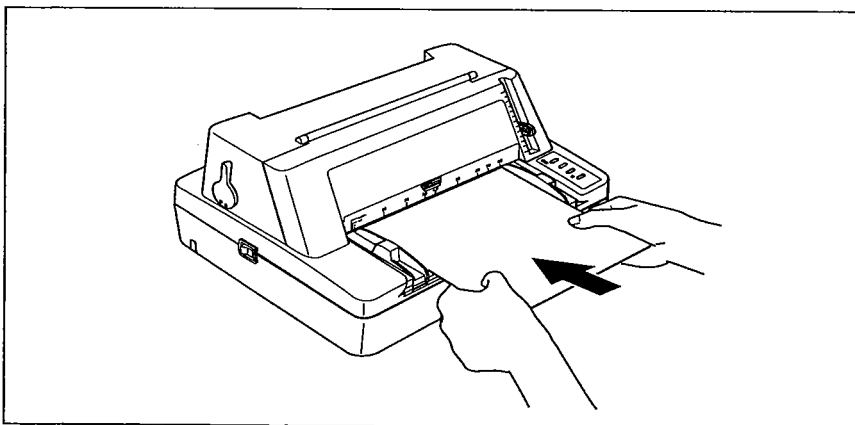

Figure 3-4 Loading cut sheet
- 4 Insert the paper as shown in Figure 3-4.